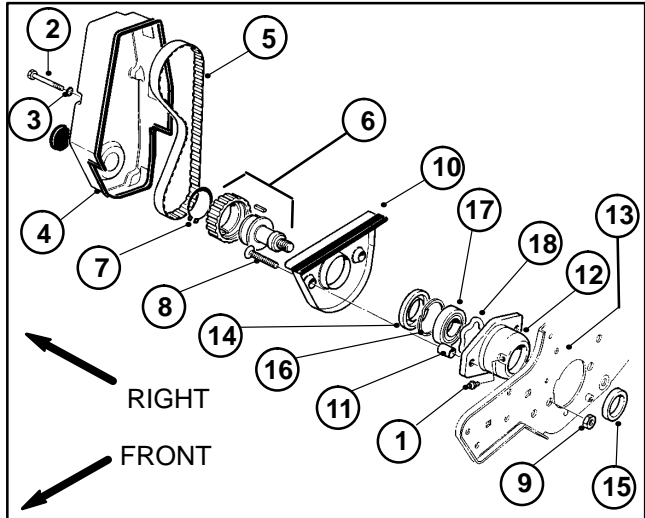
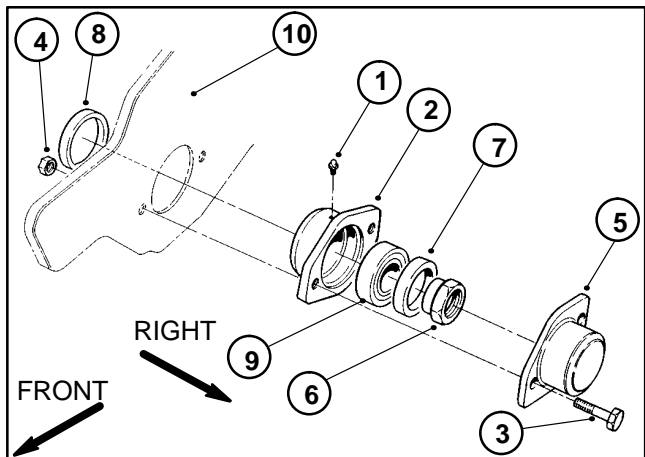

Figure 36
Figure 37
4. Remove four cap screws, four lock washers, and reel drive cover from the mower. Mark bearing housing (RH) for reassembly purposes (Fig. 36).
6. Use a 1/2-inch drive in the pulley and drive assembly (Fig. 36) to remove the assembly from the reel drive shaft. Also, remove bearing lock nut (Fig. 37) from the reel drive shaft at the same time.
7. Use an allen wrench and remove both flat head screws, groomer arm cover, and both cover standoffs from the bearing housing (Fig. 36).
8. Remove both cap screws, lock nuts, and bearing cover from the bearing housing (LH) (Fig. 37).
9. Remove grease fittings from both bearing housings (Fig. 36 and 37).
10. Pull both bearing housings from the frame and reel (Fig. 36 and 37). Remove the reel from the mower.
- A. Remove large seal, small seal, and bearing from the bearing housing (Fig. 37).
- B. Remove bearing seal, retaining ring, bearing, and wave washer from the bearing housing. Discard wave washer (Fig. 36).
2. Reassemble bearing housing (LH) components (Fig. 37).
3. Reassemble bearing housing (RH) components (Fig. 36).
A. Bearing housing (RH) should be marked from disassembly.
5. Attach bearing housing (RH) through the frame onto the reel shaft (Fig. 36).
6. Attach bearing housing (LH) through the frame onto the reel shaft (Fig. 37).
7. While tightening the bearing lock nut (Fig. 37) to the reel shaft, tighten pulley and drive assembly (Fig. 36) to the reel shaft at the same time. Torque assembly and nut to 50 ft–lb (6.9 kg–m).
8. Tighten flat head screws and nuts securing the bearing housing (RH) to the frame (Fig. 36).
9. Remove both cap screws and lock nuts holding the bearing housing (LH) to the frame. Position bearing cover to housing and secure to frame with both cap screws and lock nuts (Fig. 37).
11. Reinstall reel drive cover with four lock washers and cap screws to the mower. Tighten cap screws (Fig. 36).
12. Reinstall grease fittings to both bearing housings. Lubricate both housings with No. 2 multipurpose lithium base grease (Fig. 37 and 36).